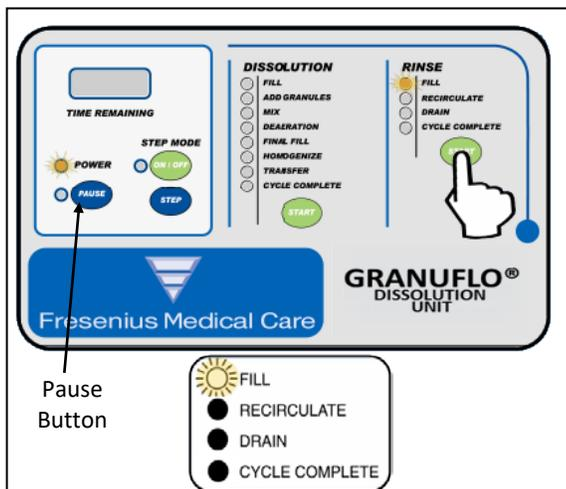

Figure 19
2. Turn the power switch ON and ensure that the water supply valve is OPEN. Press the Rinse START button. The Fill Indicator LIGHT will illuminate indicating the *RINSE CYCLE* has started and the GranuFlo I Dissolution Unit is in the first FILL Operation (Figure 19).